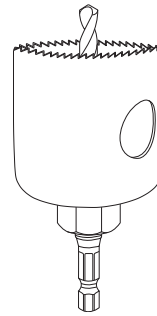

Fig. 3
(OPTIONAL) RECESSED MOUNTING (Fig. 3 & 4)
1. Drill a hole through cabinet or shelf with a 2 1/4 in. hole saw and drill (Fig. 3).